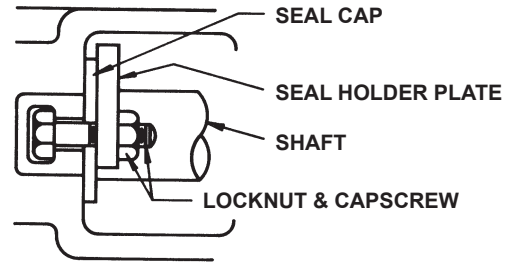

FIGURE 7
4. Loosen the two locknuts and remove the seal holder plate. For parts identification, see figure 7.